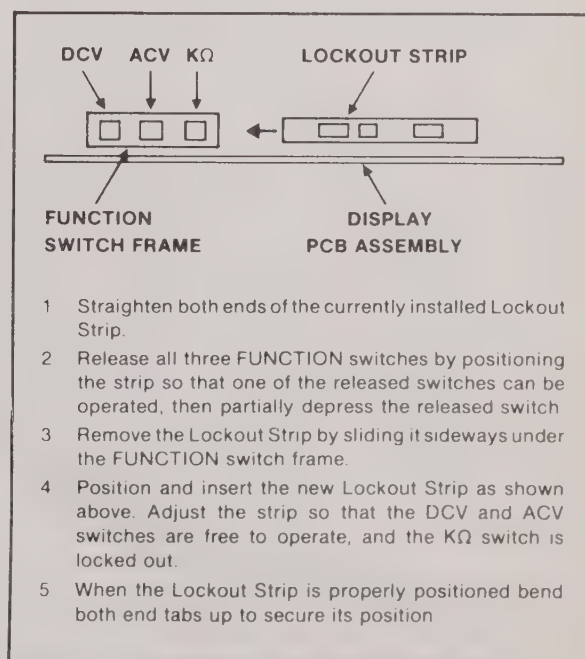

Figure 608-1. Lockout Strip Installation Instructions
2. Determine the measurement functions that will be available when the AC Converter is installed, i.e., DCV and ACV or DCV, ACV, and k Ω . If k Ω is not available, prepare and install the Lockout Assembly as shown in Figure 608-1. If the Ohms Converter (Option -007) is installed, the Lockout Assembly is not required. In this case, complete only steps 1, 2, and 3 of Figure 608-1.